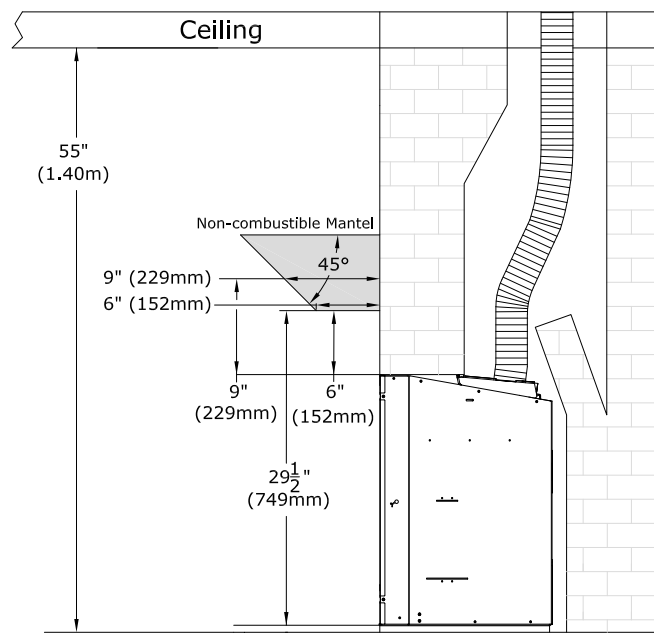

Figure 8.4, Mantel Requirements
- Combustible Mantel Projections: As referenced in Figure 8.4 (page 25) the optional 3/4" (19mm) trim can start at 6-1/2" (165mm) above the top of the appliance with a 9" (229mm) mantel starting at 10" (254mm) above the top of the appliance. Mantel projections can increase 1" (25mm) of depth for every 1" (25mm) of height starting at the 6" (152mm) mantel.
- Non-combustible Mantel Projections: As referenced in Figure 8.4 (page 25). A minimum vertical clearance of 6" (152mm) above the appliance to a maximum 6" (152mm) depth of a non-combustible mantel. Follow projection 1" (25mm) up for every 1" (25mm) deeper.